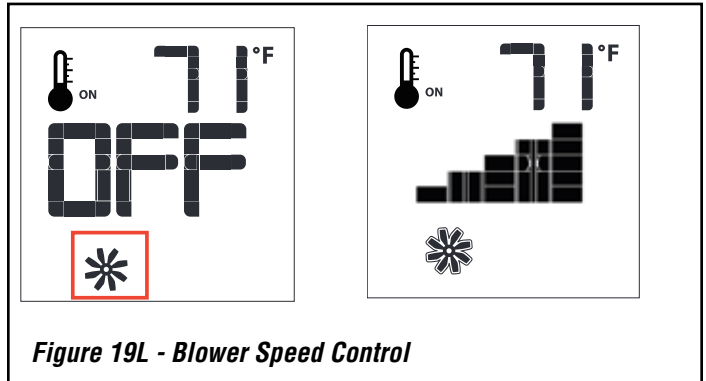

Figure 19L - Blower Speed Control
The fireplace is equipped with optional hot air circulating blowers. The speed of the blowers can be controlled by the Proflame system. The blower speed can be adjusted through six (6) speeds. To activate this function use the Mode Key, see **Figures 45 and 46, Page 46**, to index to the blower control icon, see **Figure 19L**. Use the Up/Down Arrow Keys to turn on, off, or adjust the blower speed. A single “beep” will confirm reception of the command.